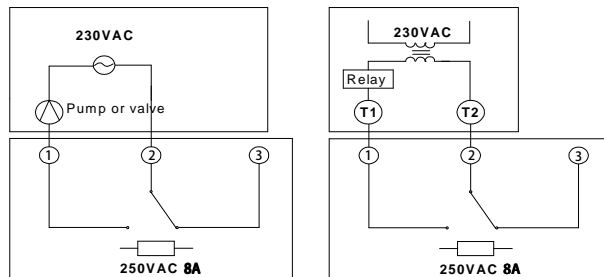

Figure 4
3. Connect wires beneath terminal screws on power supply module using appropriate wiring schematic. See figure 4
6. Replace control panel on the power base and fix power base and control panel by removed two screws in item 1